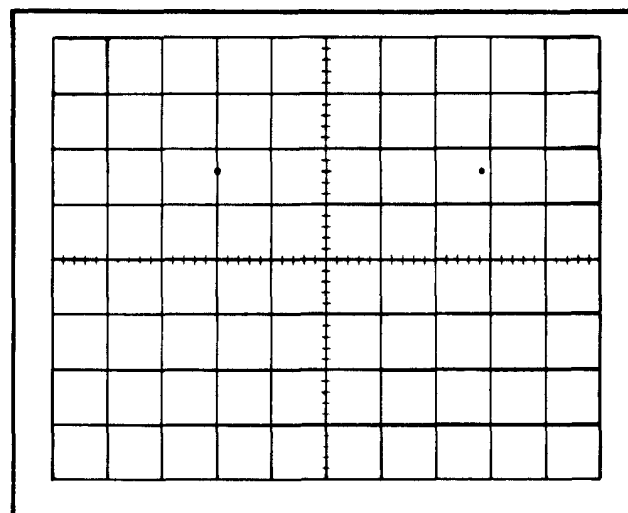

Fig. 5-18. Typical CRT display when checking external horizontal operation.
d. CHECK—CRT display for horizontal deflection between 3.75 and 6.25 divisions (10 volts/division,  $\pm 25\%$ ; see Fig. 5-18).